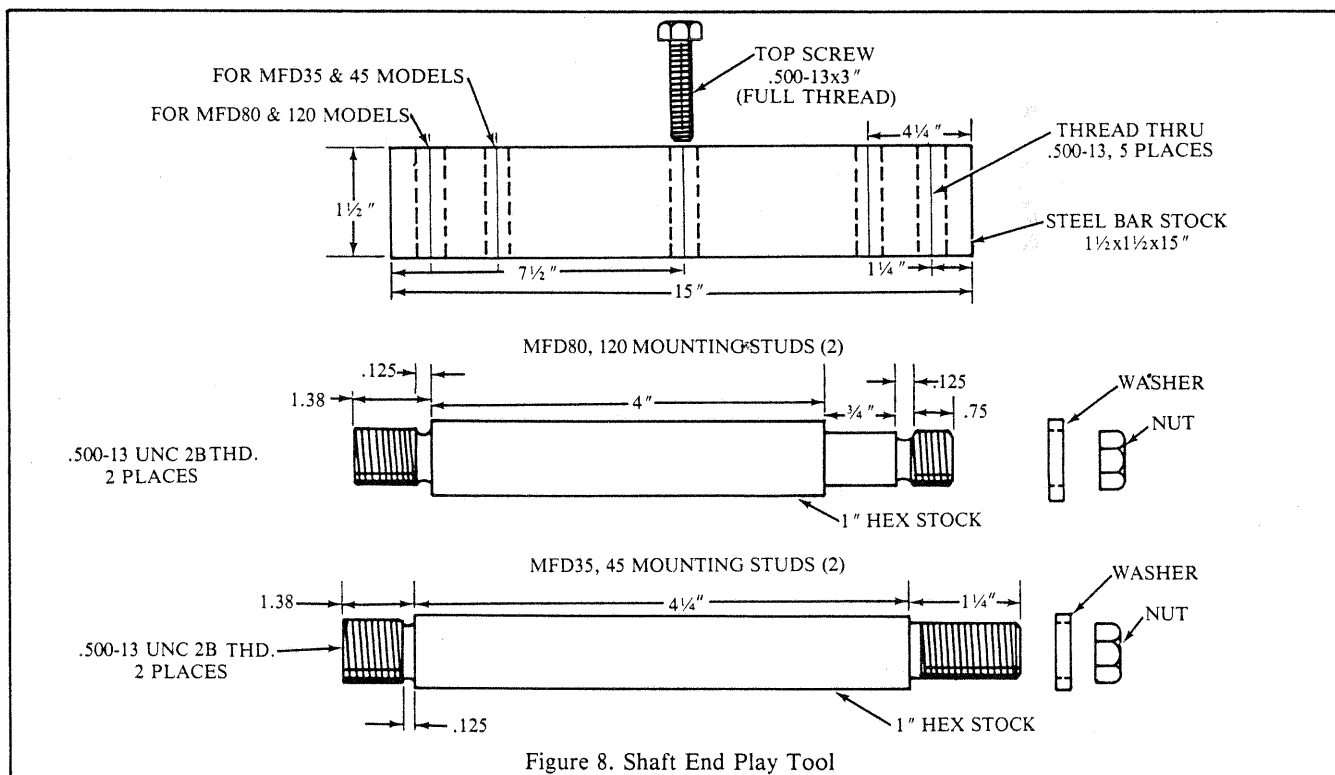

Figure 8. Shaft End Play Tool
7. Shaft end play tool (Figure 8)